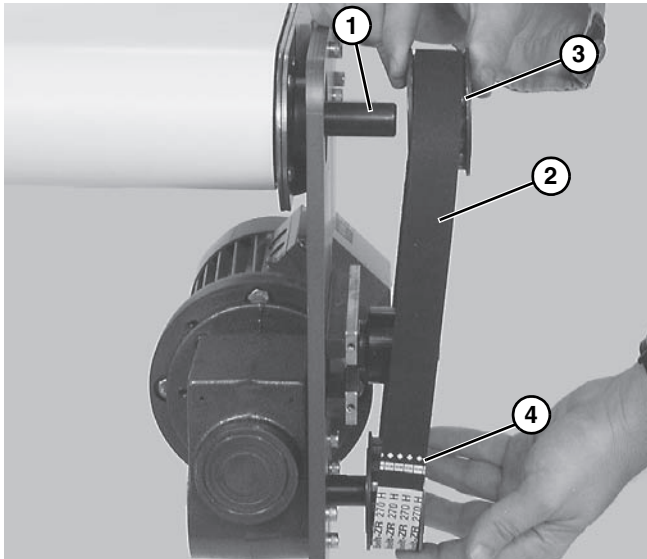

Figure 8
6. Install key (Figure 8, item 1).
7. Wrap timing belt (Figure 8, item 2) around driven pulley (Figure 8, item 3) and drive pulley (Figure 8, item 4). Install driven pulley onto conveyor shaft.